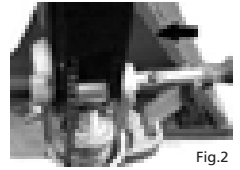

Fig.2
1. Insert the draw-bar into the pump piston, then use a hammer to insert the axle with hole into the hydraulic pump and draw-bar from the right to left. (See fig. 2).